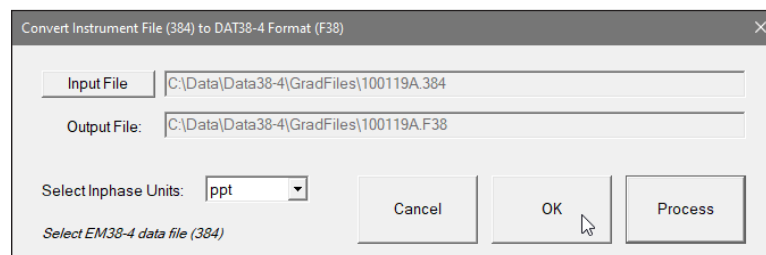

Figure 2.1 Convert EM38-4 Files to F38 Format dialog (Inphase units in ppt)
1. **Convert EM38-4 File (.384) to DAT38-4 (.F38) Format** – This option allows for the conversion of a single data file (Figure 2.1).